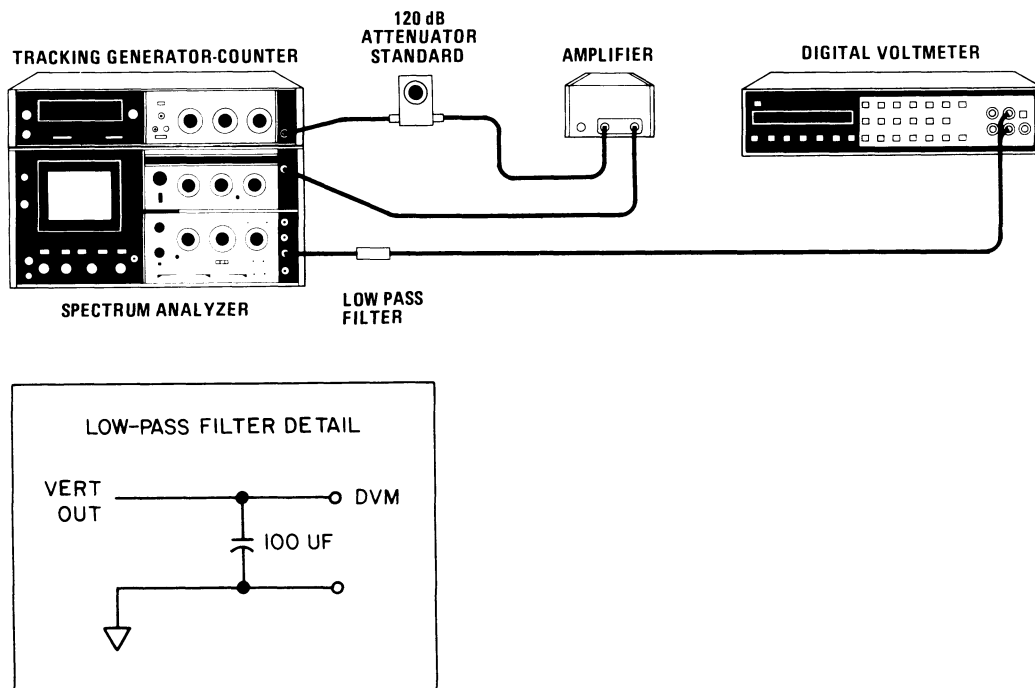

Figure 4-2. Amplitude Range Test Setup
2. Use very short double-shielded cables to connect the equipment as shown in Figure 4-2. A low-pass filter (100 microfarad) is required between the VERTICAL OUTPUT of the spectrum analyzer IF Section and the digital voltmeter.